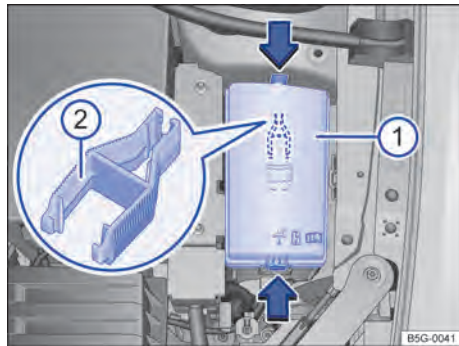

Fig. 172 In the engine compartment: fuse box cover ① with plastic claw ②.
- Press the retainers in the direction of the arrow → Fig. 172 ① to release the fuse box cover.
⚠ On the inside of the engine compartment fuse box cover there may be a pair of plastic tweezers → Fig. 172 ② to extract the fuses.